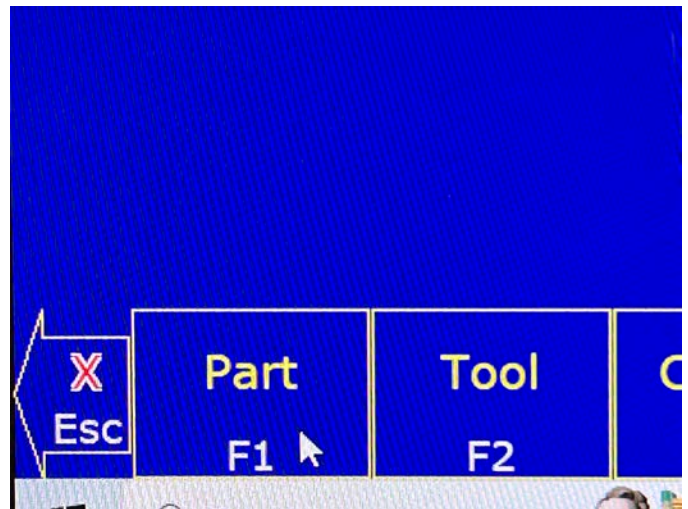

FIGURE 43
B. Click on Part F1 (see Figure 43).